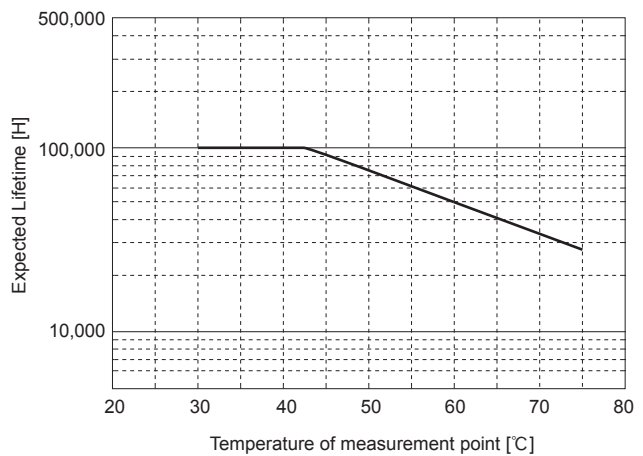

Fig.3.11 Expected lifetime of fan (PJA300F/PJA600F)
■ The expected life time (R (t) = 90%) of the built-in fan depends on the operating condition as shown in Fig. 3.11, 3.12.